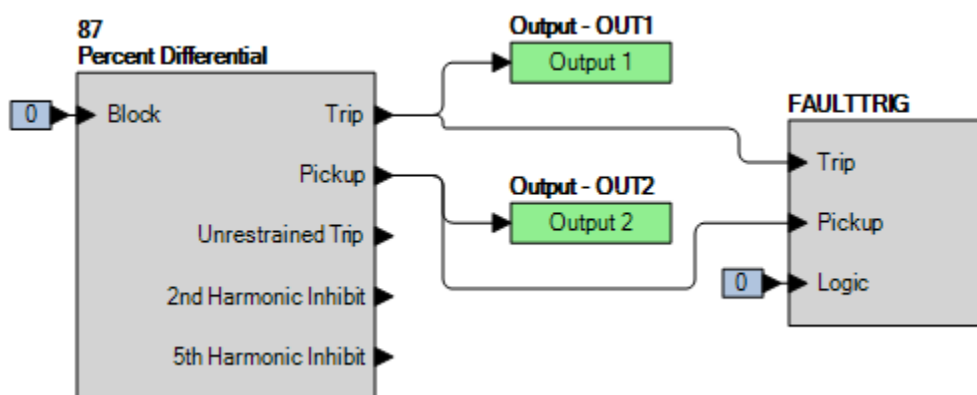

Figure 76-1. BESTlogicPlus Settings (87R)
- Step 2: Use BESTCOMSPPlus to configure the BESTlogicPlus programmable logic shown in Figure 76-1.
- Step 3: Prepare to monitor the 87R function operation. Operation can be verified by monitoring OUT2 (see Figure 76-1).
Step 2: Use BESTCOMSPPlus to configure the BESTlogicPlus programmable logic previously shown in Figure 76-1.
Step 3: Prepare to monitor the 87R function operation. Operation can be verified by monitoring OUT2 (see Figure 76-1).
- Step 1: Use BESTCOMSPius to verify the operational settings in Table 76-1 (Maximum) or 2 (Average) and logic in Figure 76-1. Reset all targets.
- Step 1: Use BESTCOMSP*lus* to send the operational settings in Table 76-1 and verify the logic in Figure 76-1. Reset all targets.
- Step 1: Use BESTCOMSP*lus* to send the operational settings in Table 76-2 and verify the logic in Figure 76-1. Reset all targets.